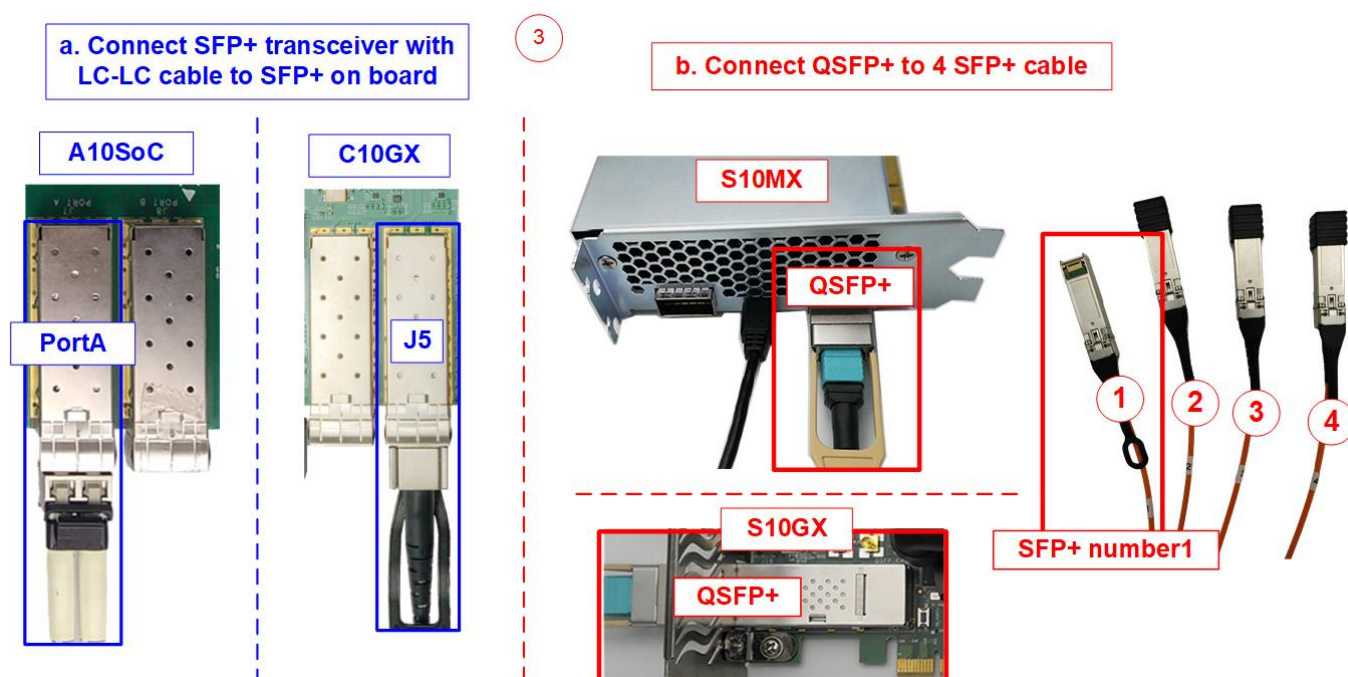

Figure 2-7 10Gb Ethernet connection
- b) For Stratix10 GX/Stratix10 MX board, insert QSFP+ to 4 SFP+ cable between FPGA board and PC. Use SFP+ no.1 to connect to QSFP1, as shown in Figure 2-7.